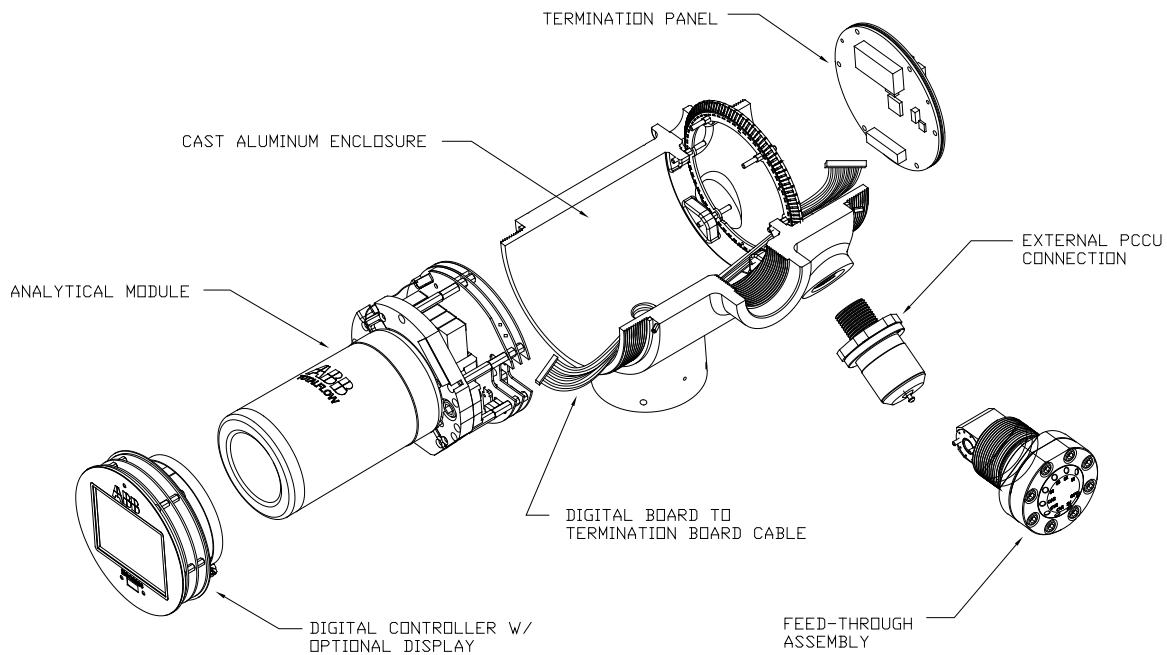

Figure 2-3 Modular Design NGC8206
- Modular design (See Figure 2-3)